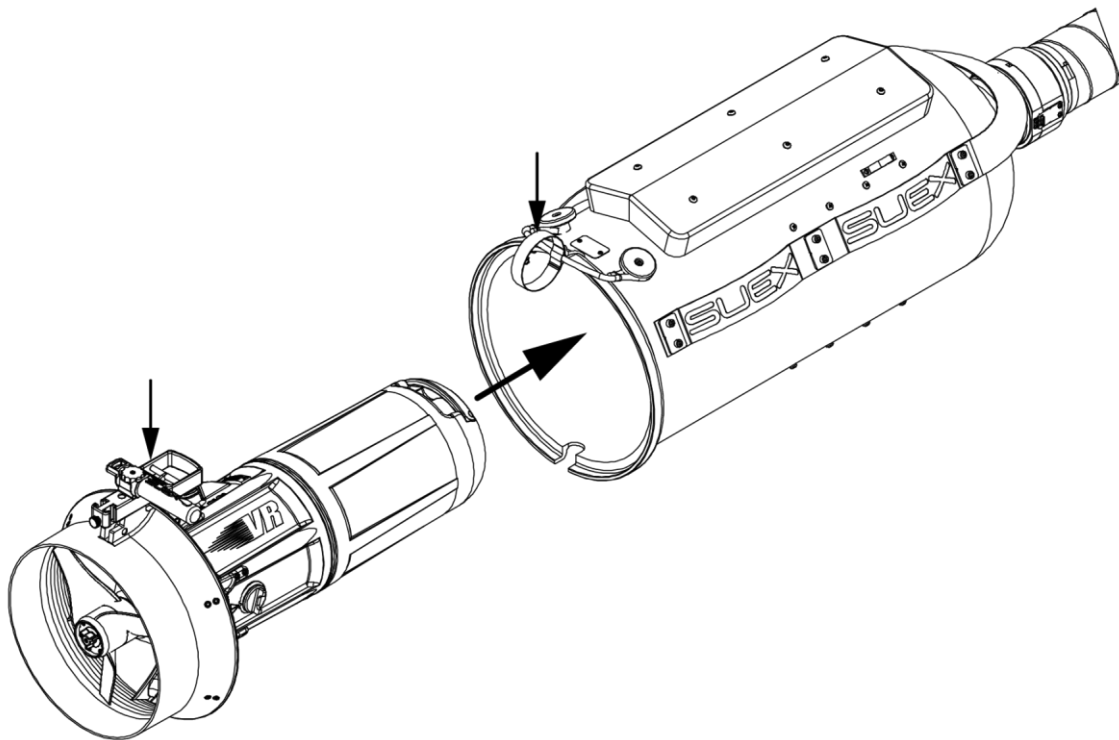

Fig.4 - Scooter inserting
- Insert the Scooter from the side of the nosecone inside the body of the Discovery - DOD making sure to position it with the handle aligned with the red band of the Discovery - DOD (Fig. 4).